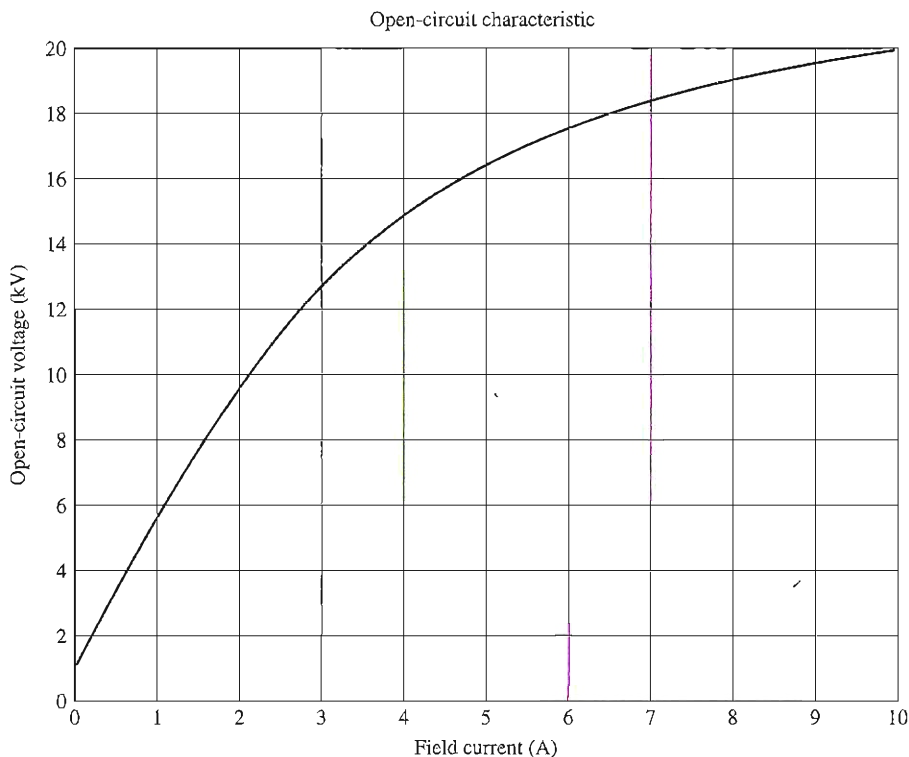

FIGURE P4-1
- 4-2. A 13.8-kV, 50-MVA, 0.9-power-factor-lagging, 60-Hz, four-pole Y-connected synchronous generator has a synchronous reactance of 2.5Ω and an armature resistance of 0.2Ω . At 60 Hz, its friction and windage losses are 1 MW, and its core losses are 1.5 MW. The field circuit has a dc voltage of 120 V, and the maximum I_f is 10 A. The current of the field circuit is adjustable over the range from 0 to 10 A. The OCC of this generator is shown in Figure P4-1.